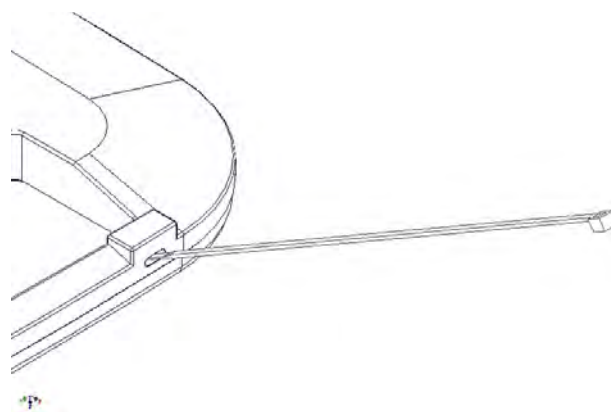

Figure 2 - Insert cable tie through Kensington lock slot
Step 3 - Optional safety tether: To attach the optional safety tether, insert the included cable tie into the Kensington lock slot at an angle toward the top of the access point. There is an opening that will allow the cable tie to pass through (reference Figure 2).